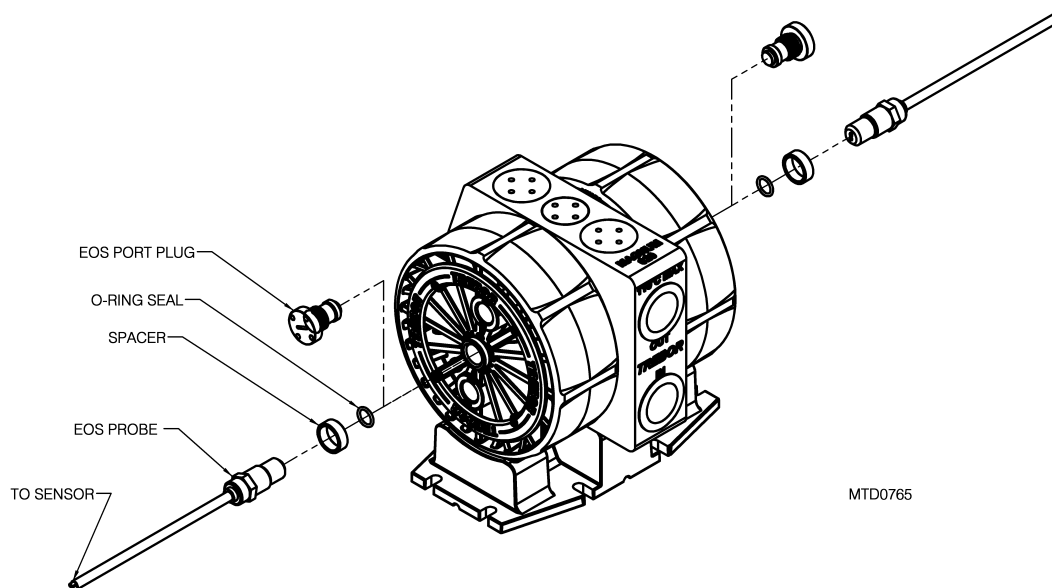

Figure 2-3
- Thread probe fitting and spacer into adapter fitting and tighten until spacer is flush with adapter fitting face (as shown in Figure 2-3).